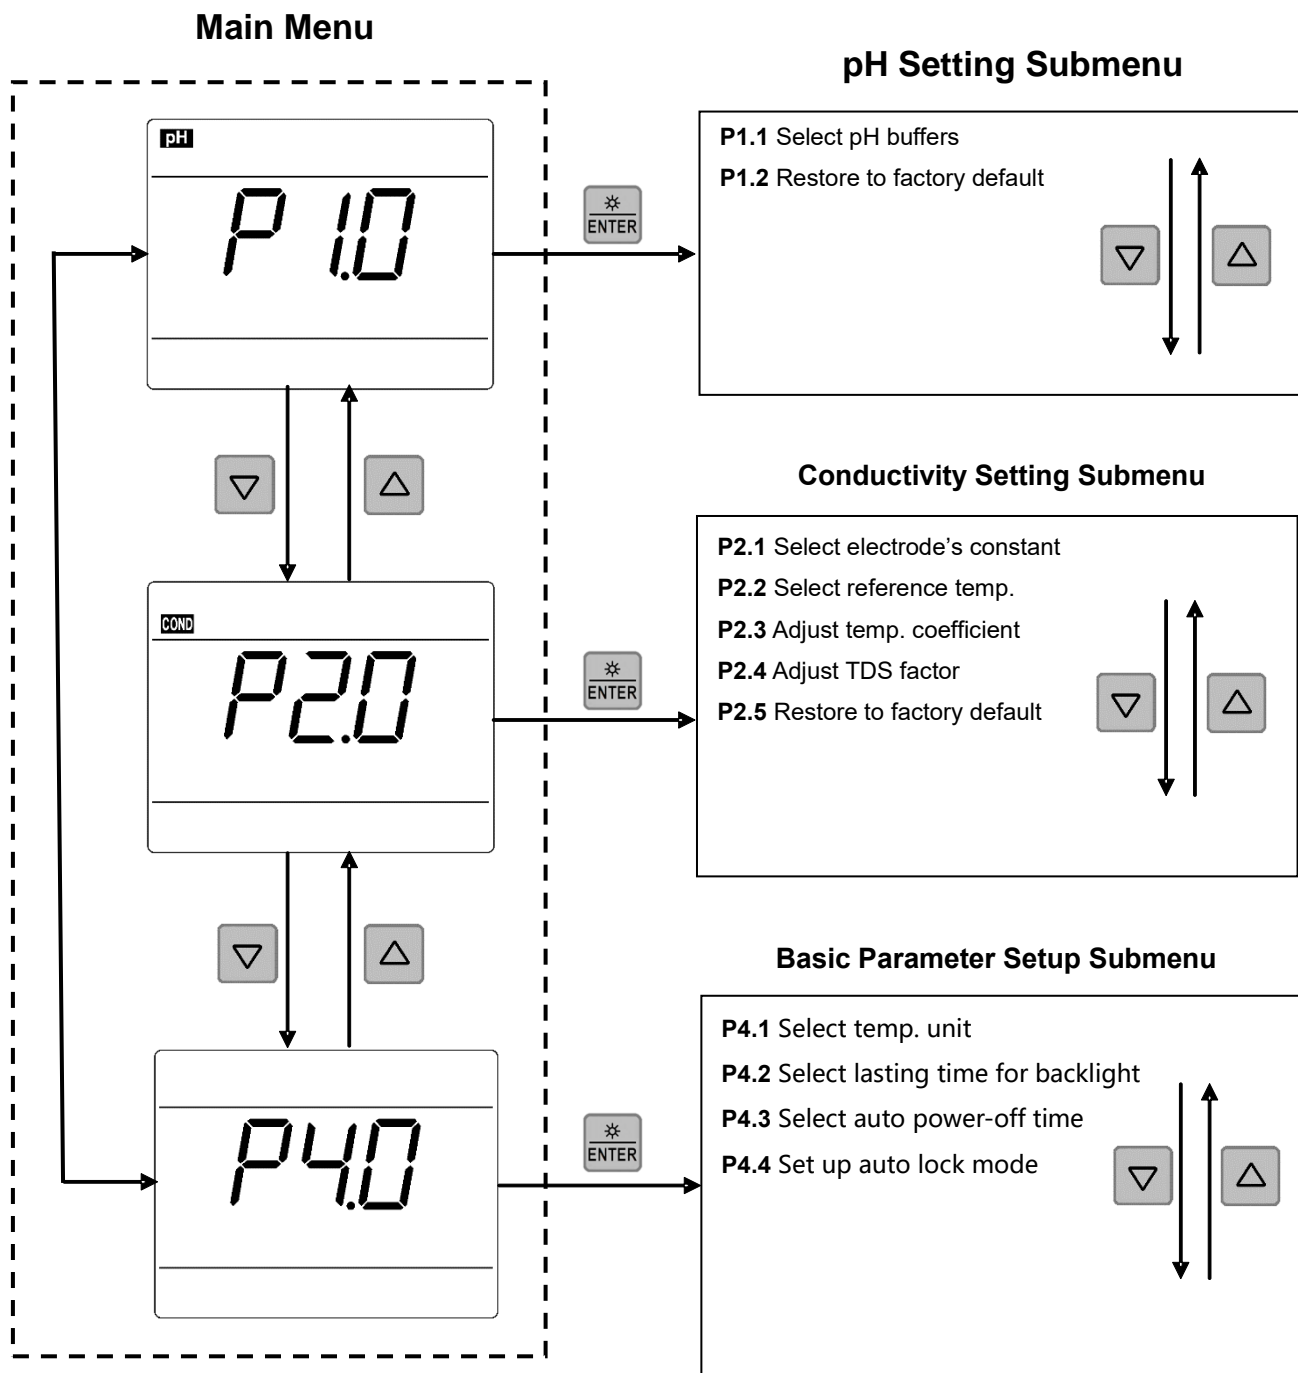

Figure-7
7.2.1 In P1.0, press  to enter the submenu P1.1 for pH setting, press  and  to change submenu: P1.1→P1.2→ ... →P1.5. See Figure-7 for details.
7.2.2 In P2.0, press  to enter the submenu P2.1 for conductivity setting, press  and  to change submenu: P2.1→P2.2→ ... →P2.7. See Figure-7 for details.
7.2.3 In P4.0, press  to enter the submenu P4.1 for basic parameter setting, press  and  to change submenu: P4.1→P4.2→...→P4.8. See Figure-7 for details.